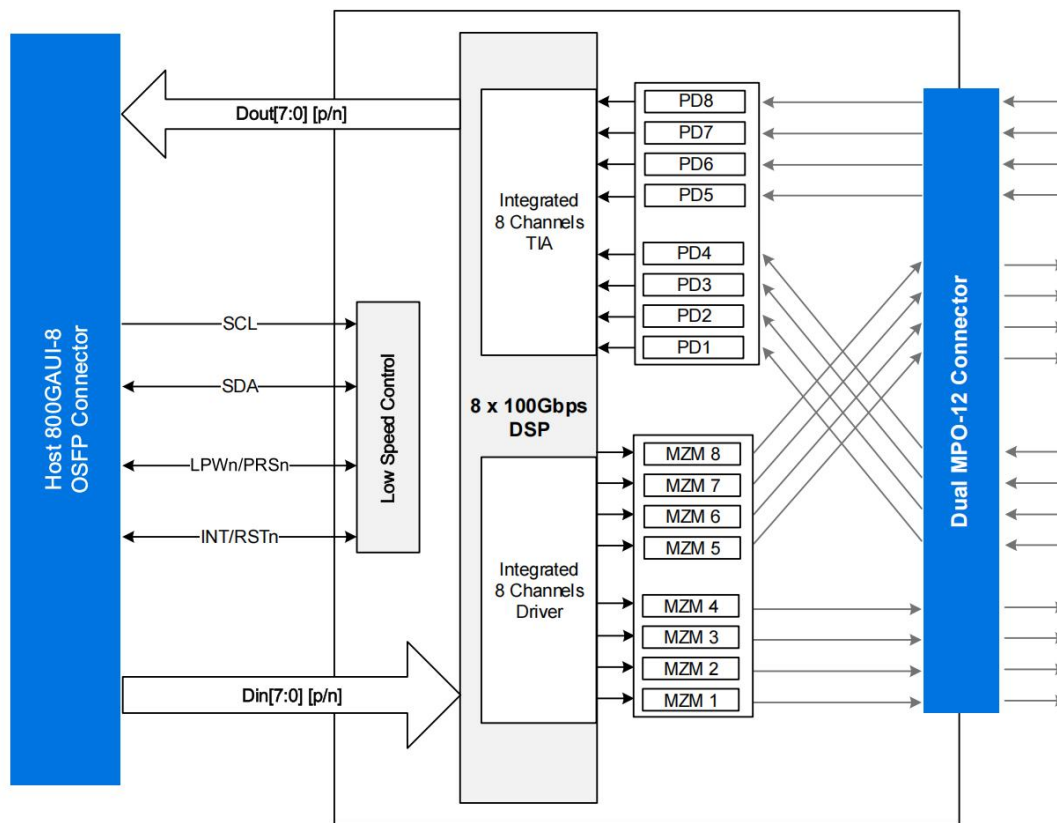

Figure 6 Transceiver Block Diagram
As shown in Figure 6, the transmitter path of the transceiver contains an 8x100Gbps 800GAUI-8 electrical input with Equalization (EQ) block, integrated electrical multiplexer, integrated driver, control and bias for the eight MZ modulators and single mode laser source. The integrated electrical multiplexer converts 8 channels of 100Gbps (PAM4) electrical input data to 8 channels of 100Gbps (PAM4) parallel optical signals.
As shown in Figure 6, the receiver path of the transceiver contains eight PIN photodiodes, integrated TIA on the DSP, integrated electrical de-multiplexer and 8x100G 800GAUI-8 compliant electrical output blocks. The integrated de-multiplexer converts 8 channels of 100Gbps (PAM4) parallel optical signals to 8 channels of 100Gbps (PAM4) electrical output data.